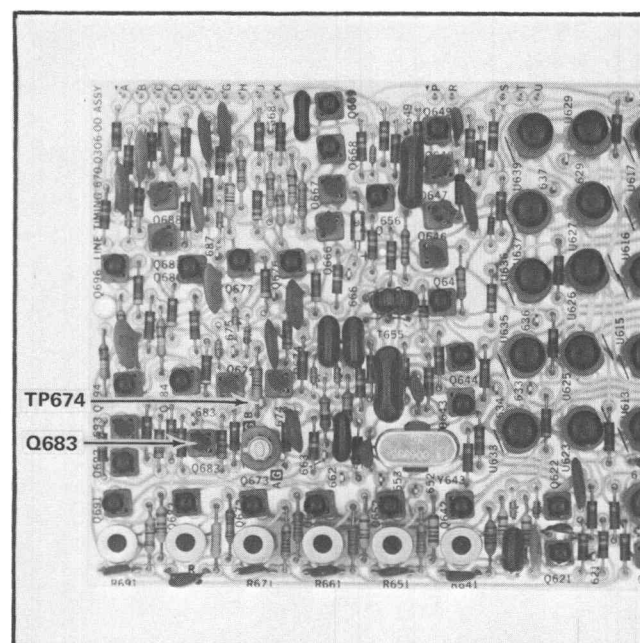

Fig. 5-5. Line Timing board test point and transistor locations.
f. From the Type 1A5 B Input connector, connect a 10X probe to TP674 on the Type R140 Line Timing board (see Fig. 5-5).